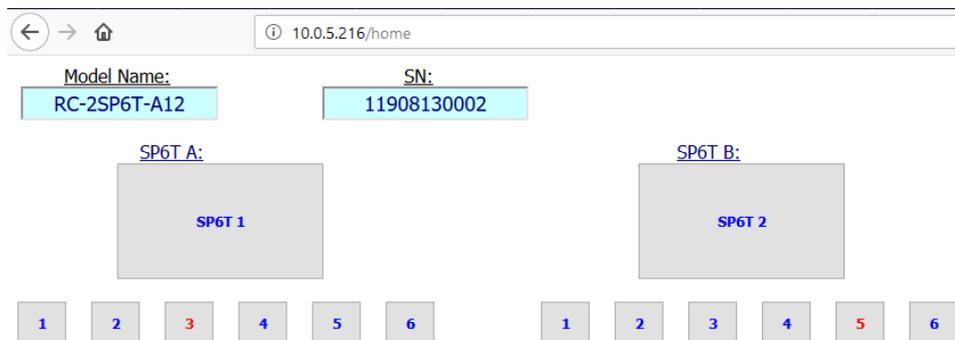

Figure 3.1.5: Web-browser GUI Interface
3.1.5 **A basic GUI interface is programmed** into each switch matrix, and can be accessed simply by typing the switch matrix’ IP address followed by “/home” into the address window of most common browsers (see Figure 3.1.5 for an example). This interface is usable from almost any Windows, Mac or Linux computer.